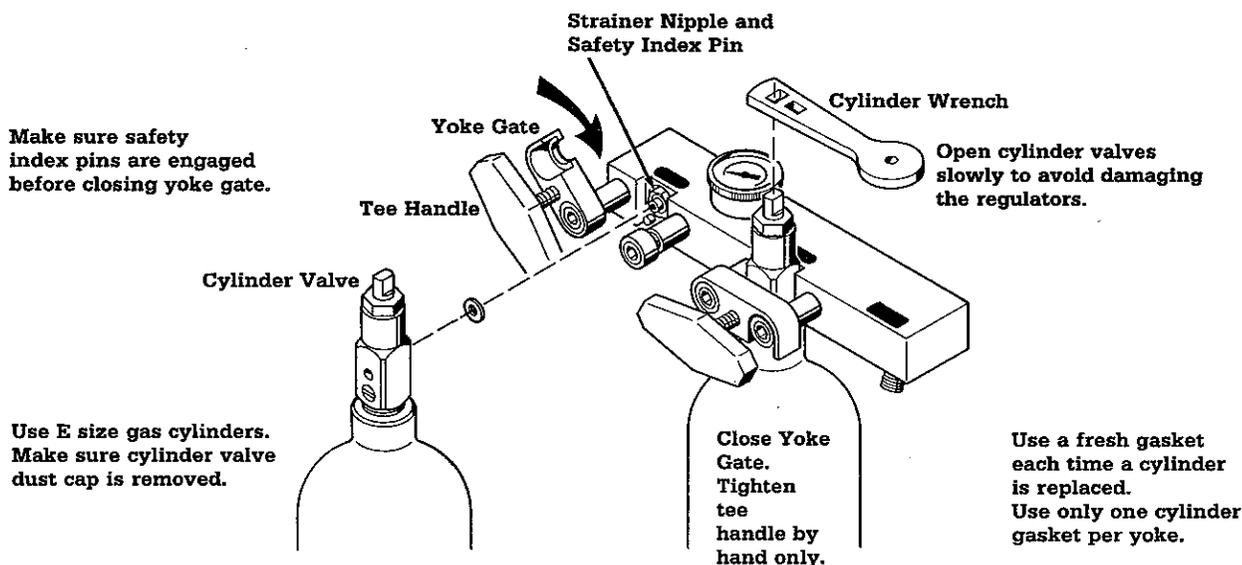

Figure 5-15
A. General (Figures 5-15 and 5-16)